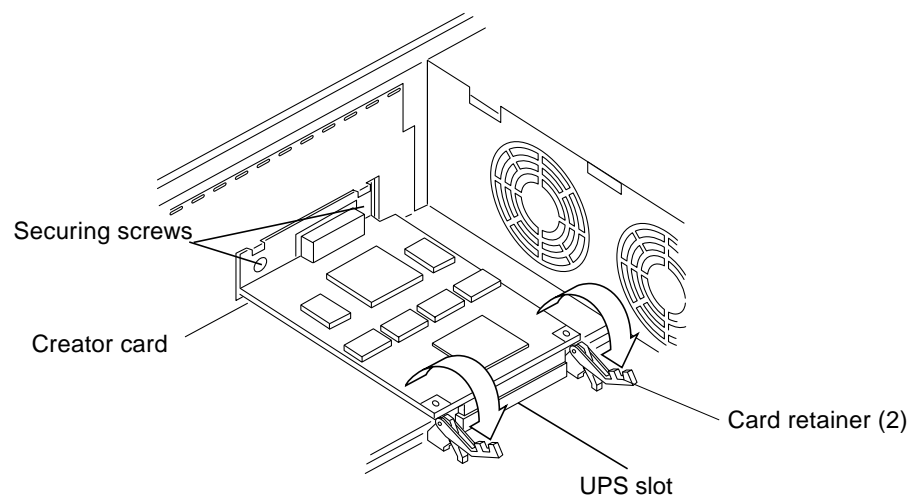

Figure 2-4 Preparing to Remove the Creator Card
1. **Remove the two screws and washers securing the Creator framebuffer to the back panel (Figure 2-4).**
2. **Unlock the card retainers (Figure 2-4).**